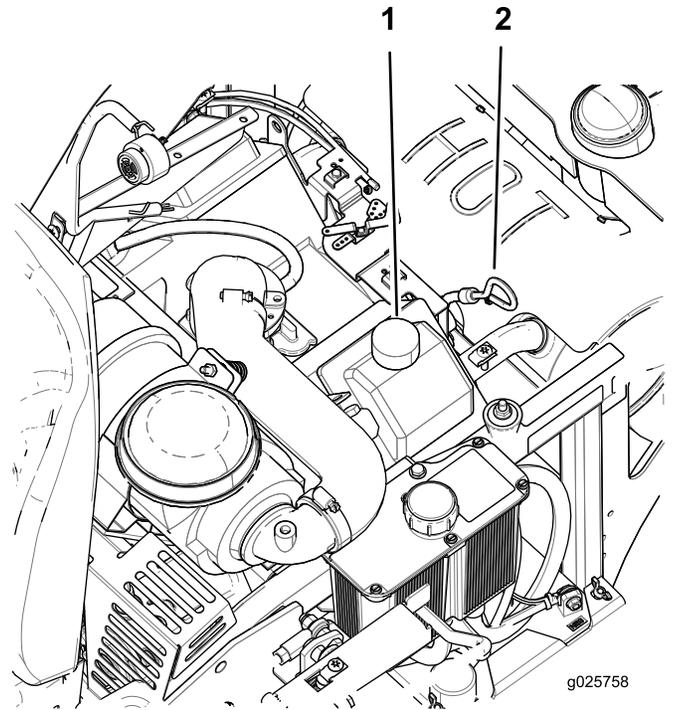

Figure 40
4. To keep dirt, grass clippings, etc., out of the engine, clean the area around the oil-fill cap and dipstick before removing it (Figure 40).
8. If the oil level is low, wipe off the area around the oil-fill cap, remove cap and fill to the full mark on the dipstick (Figure 40).
4. Slowly pour approximately 80% of the specified oil into the filler tube and slowly add the additional oil to bring it to the **full** mark on the dipstick (Figure 40).
5. Start the engine and drive to a flat area. Check the oil level again (Figure 40).